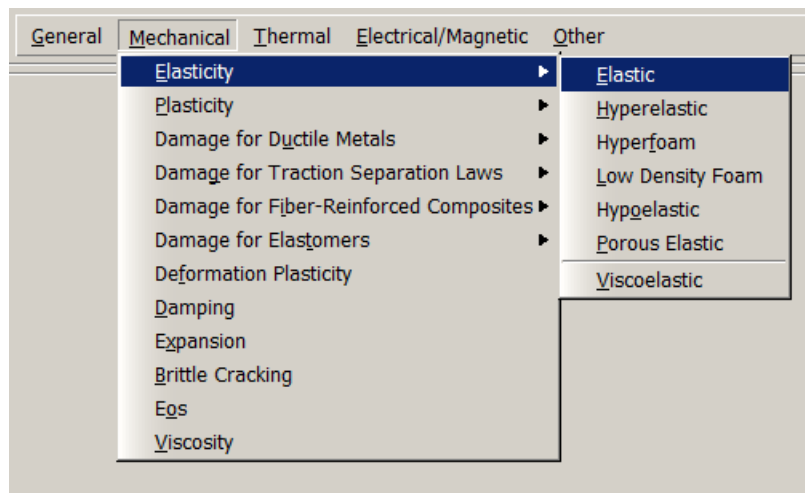

Figure L1a–6. Material pull–down menu.
4. From the material editor's menu bar, select **Mechanical**→**Elasticity**→**Elastic**, as shown in Figure L1a–6.